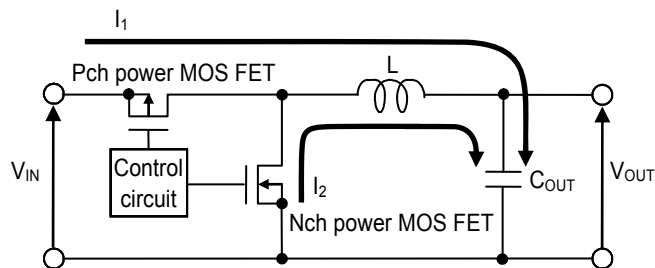
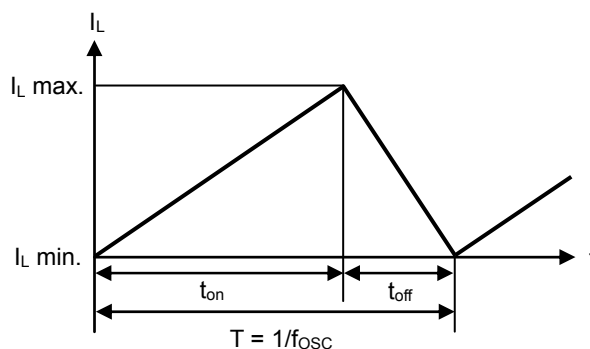

Figure 9 Basic Circuit Drawing of Step-down Switching Regulator
Figure 10 Continuous Mode (Current Cycle of Inductor Current (I_L))
The S-8550 Series is a step-down synchronous rectification switching regulator based on constant PWM control. **Figure 9** shows the basic circuit diagram.
When the Pch power MOS FET is turned on, current I_1 flows in the direction shown by the arrow in **Figure 9**, and energy is stored in the inductor (L). When the output capacitor (C_{OUT}) is charged, supply of the output current (I_{OUT}) is started at the same time. The inductor current (I_L) gradually increases in proportion to the ON time (t_{ON}) of the Pch power MOS FET as shown in **Figure 10** (changes from I_L min. to I_L max.). When the Pch power MOS FET is turned off, the Nch power MOS FET is turned on and I_L tries to hold I_L max. Consequently, current I_2 flows in the direction shown by the arrow in **Figure 9**. As a result, I_L gradually decreases and reaches I_L min. when the OFF time (t_{OFF}) has elapsed. When t_{OFF} has elapsed, the Nch power MOS FET is turned off and the next cycle is entered. The above sequence is repeated.